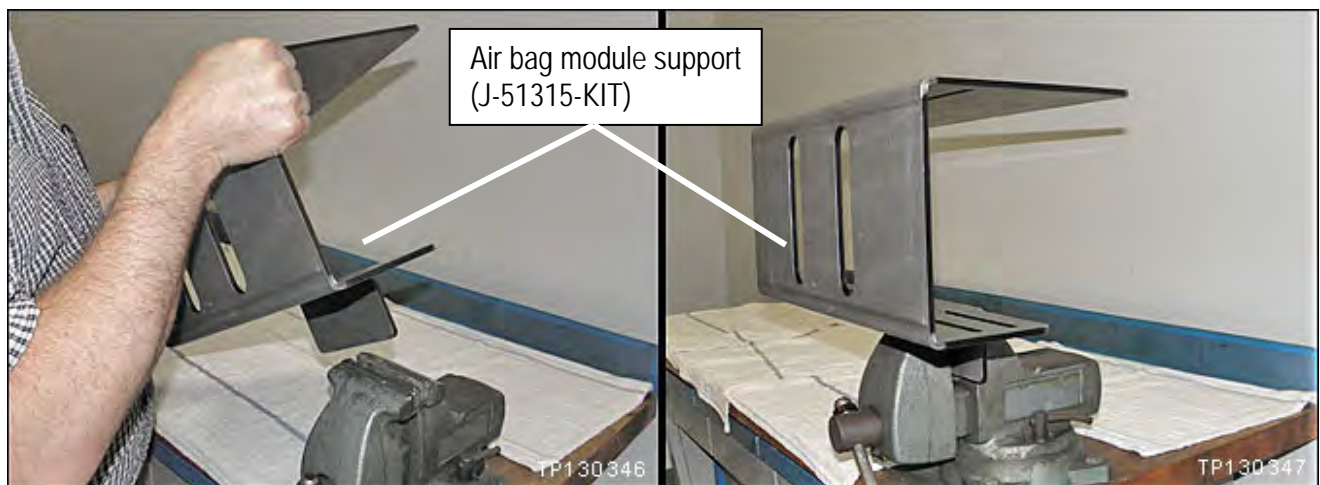

Figure 11
20. Securely mount the air bag module support (support) in a vise (see Figure 11).